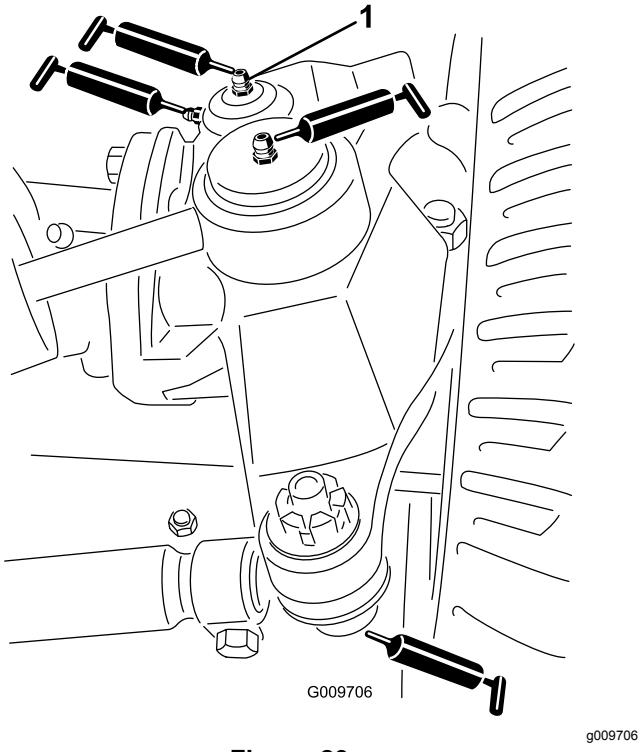

Figure 23
- Steering cylinder ball joints (2) (Figure 23)